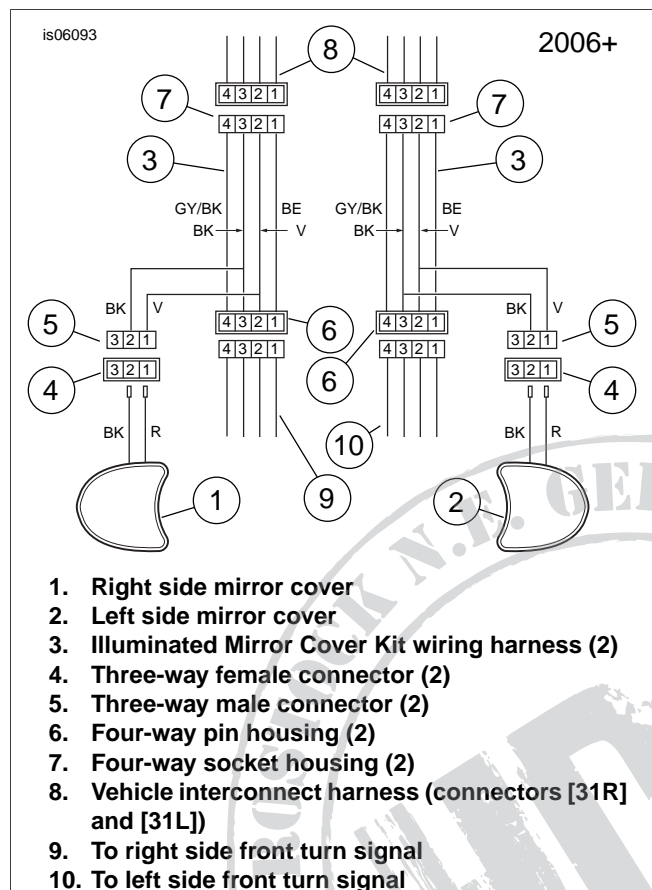

Figure 3. Wiring Diagram, Illuminated Chrome Mirror Cover Kit (2006 and Later)
1. See Figure 3. Locate and un-mate the four-way Multilock left [31L] and right [31R] turn signal connectors (9 and 10), found near the left and right inner fairs support braces.